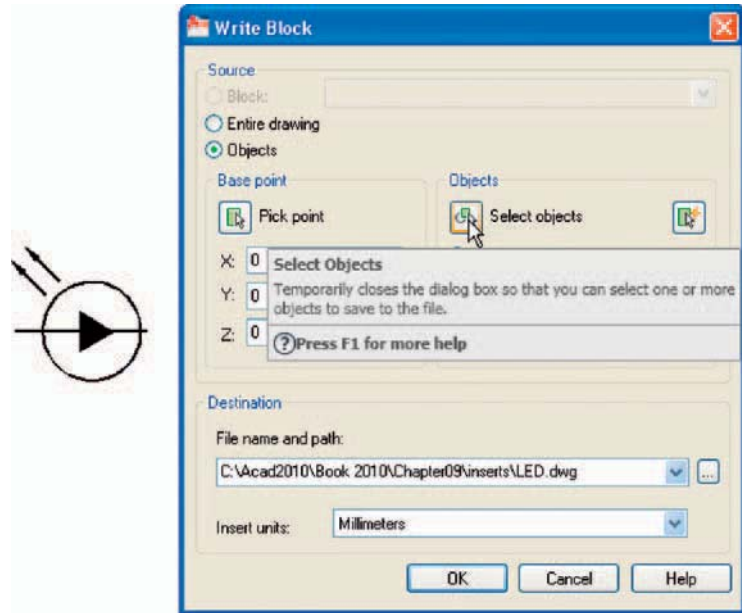

Fig. 9.19 Example – Wblock
Example – wblock (Fig. 9.19)
1. Construct a light-emitting diode (**LED**) symbol and *enter w* at the command line. The **Write Block** dialog appears (Fig. 9.19).